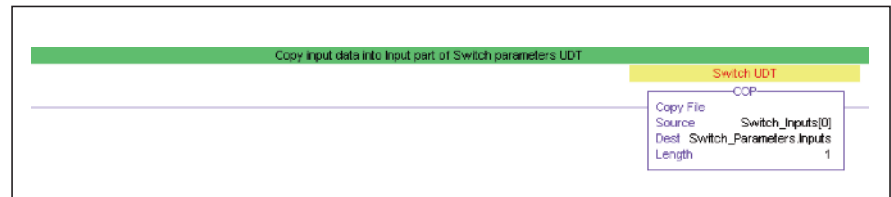

Figure 14 Code to copy data from device input word to UDT
Working with implicit data on the I/O channel requires Copy (COP) or Move (MOV) instructions to transfer data, as shown in Figure 14 and Figure 15.
7. **Copy explicit data into a UDT.** The MSG instructions should be configured to read the data received from the device as a temporary storage array. To move data in this storage array into an instance of the UDT, use MOV and COP instructions (Figure 14 & Figure 15).